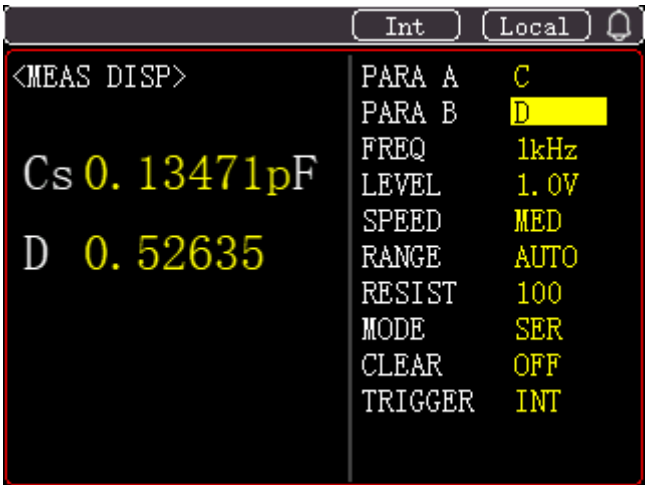

Figure 3-1 Test Mode
- 2) Enter test state after delay, see Figure 3-1, the actual situation may different.